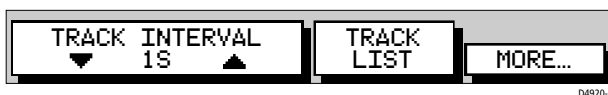

Figure 3-55: Second Level Track Soft Keys
3. Press the MORE... soft key to display the second level Track soft keys as shown in *Figure 3-55*.